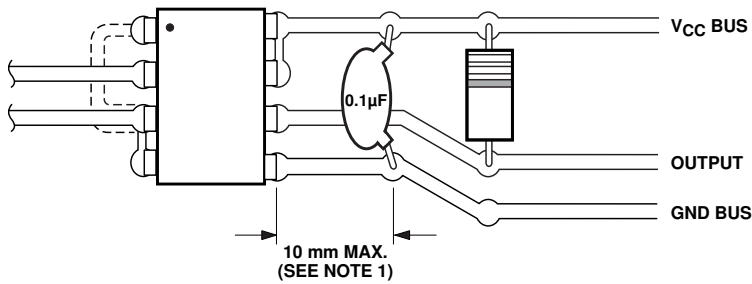

Figure 15. Recommended printed circuit board layout.
1. Bypassing of the power supply line is required with a 0.1 μF ceramic disc capacitor adjacent to each optocoupler, as illustrated in Figure 15. Total lead length between both ends of the capacitor and the isolator pins should not exceed 10 mm.
assumes that good board layout procedures were followed to reduce the effective input/ output capacitance as shown in Figure 15.